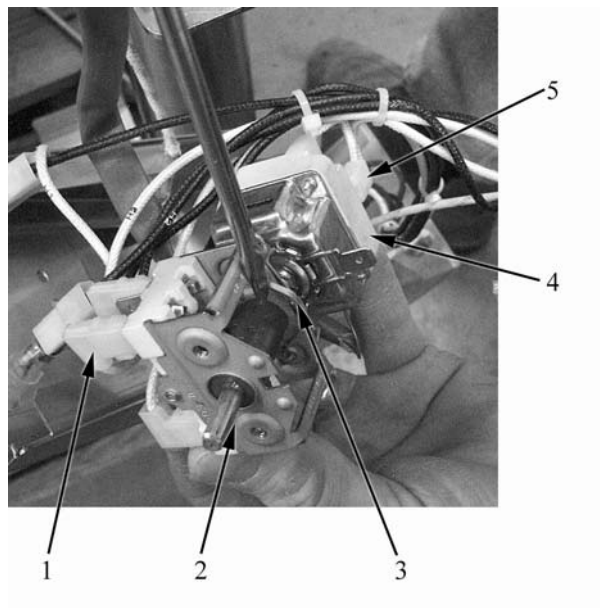

Fig. 16
- disconnect the electrical connections (item 5 in Fig. 16);
- with the aid of screwdriver straighten the coupling bracket tongues of thermostat-switch (item 3 in Fig. 16) to detach the two components;
- disconnect the electrical connections (item 1 in Fig. 16);